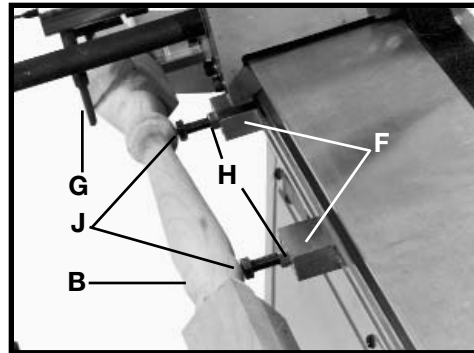

Fig. 81
Slide the two support brackets (F) Fig. 81 to the areas adjacent to the turning (B) where support is needed to prevent deflection as the follower arm (G) moves across the turning (B). Loosen two locknuts (H) and move the two support screws (J) outward until the screws contact the surface of the turning (B) (Fig. 81), and firmly tighten locknuts (H).